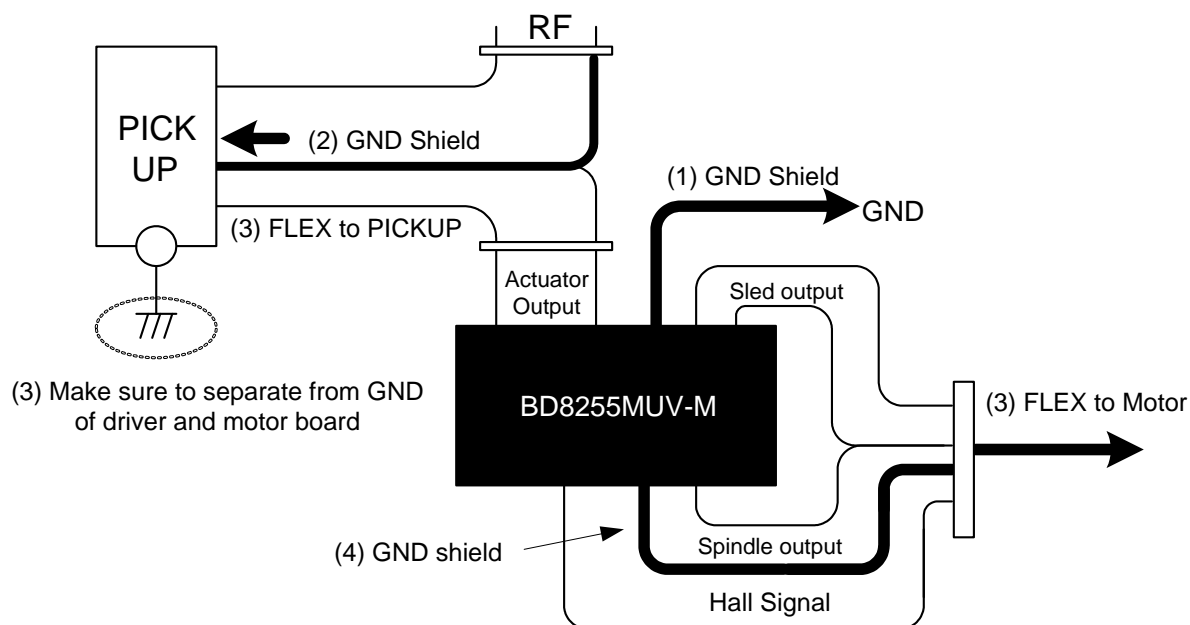

Figure 29. RF Noise Suppression
- Countermeasures against B - See Figure 29. -
- (1) Ensure certain distance between RF signal line and PWM-driven output line. If they must be located inevitably too close, shield the RF signal line with GND except the stable GND.
- (2) Like in (1), flexible cable to the pickup should be shielded with GND in order to separate noise between the signal line and the actuator drive output line.
- (3) Connect the motor system and the actuator system to separate flexible cables.
- (4) As FG pulse is generated from hall signal, provide a shield with stable GND or other wire with low impedance between the PWM output and the hall signal so that noise is not radiated from the flexible cable and the board pattern.